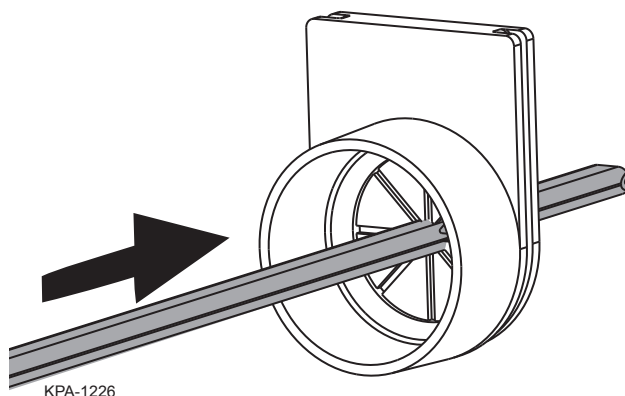

Figure 1 — Feed Drop Cable Through Grommet
**Step 2:** Cut a slit in the entry grommet in the NID. Push the drop cable through the opening in the grommet (Figure 1).